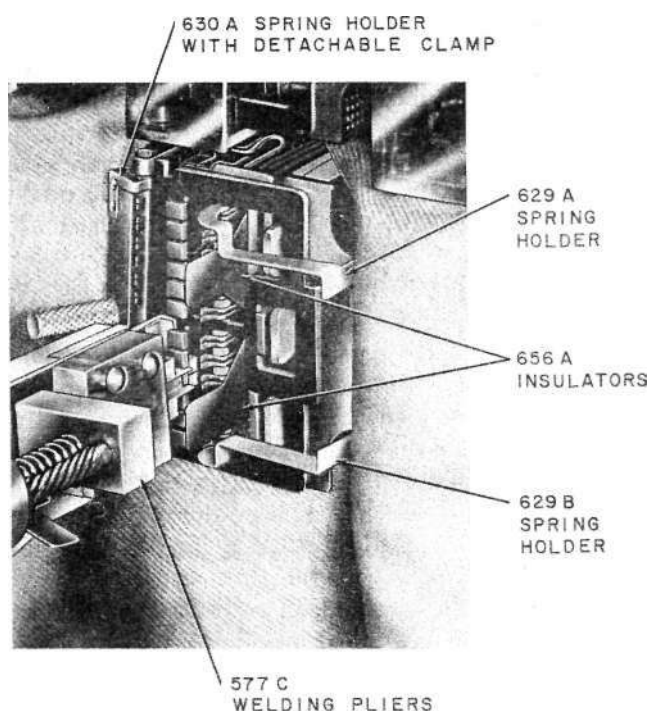

Fig. 9—Welding Contact on Fixed Spring
4.27 After positioning the pliers as covered in 4.24 through 4.26, hold them so the side of the jaw electrodes is parallel to the fixed contacts. Hold the pliers in line with the spring, and release the latch, to move the contact electrode forward to the welding position as shown in Fig. 9. Then, with all hand pressure removed from the handles of the pliers, depress and release the control button of the current supply set. Do not operate the control button more than once for any one welding operation. Holding the control button depressed has no effect since the time control relay of the current supply set is held locked until the control button is released.